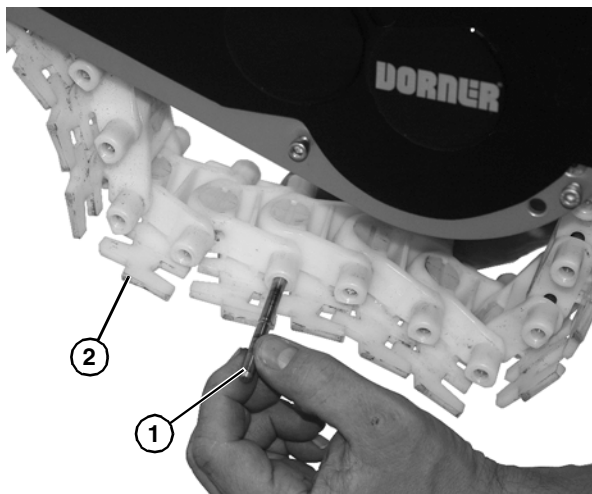

Figure 44
1. Use a punch and hammer or belt removal tool #203480 to push the belt rod (**Figure 44, item 1**) out by striking the rod end.
2. Slide the old belt (**Figure 44, item 2**) off the conveyor frame.